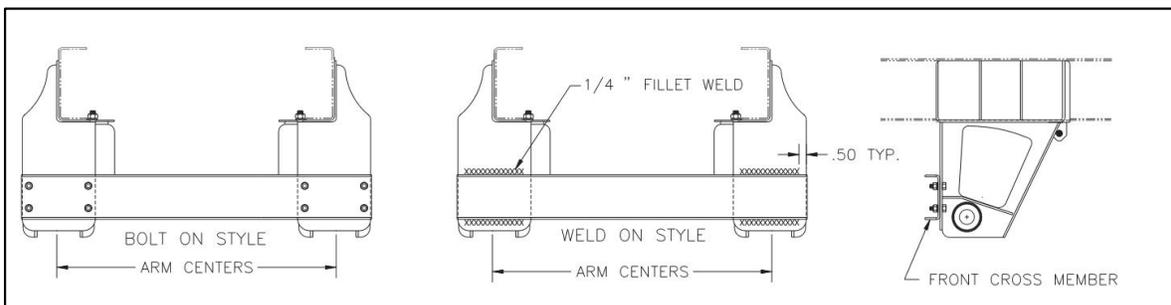

Figure 9
17. Install the cross member and torque the cross member fasteners to specification (See **Section 10 Torque Requirements**) or weld the cross member in place as required (See **Figure 9**).